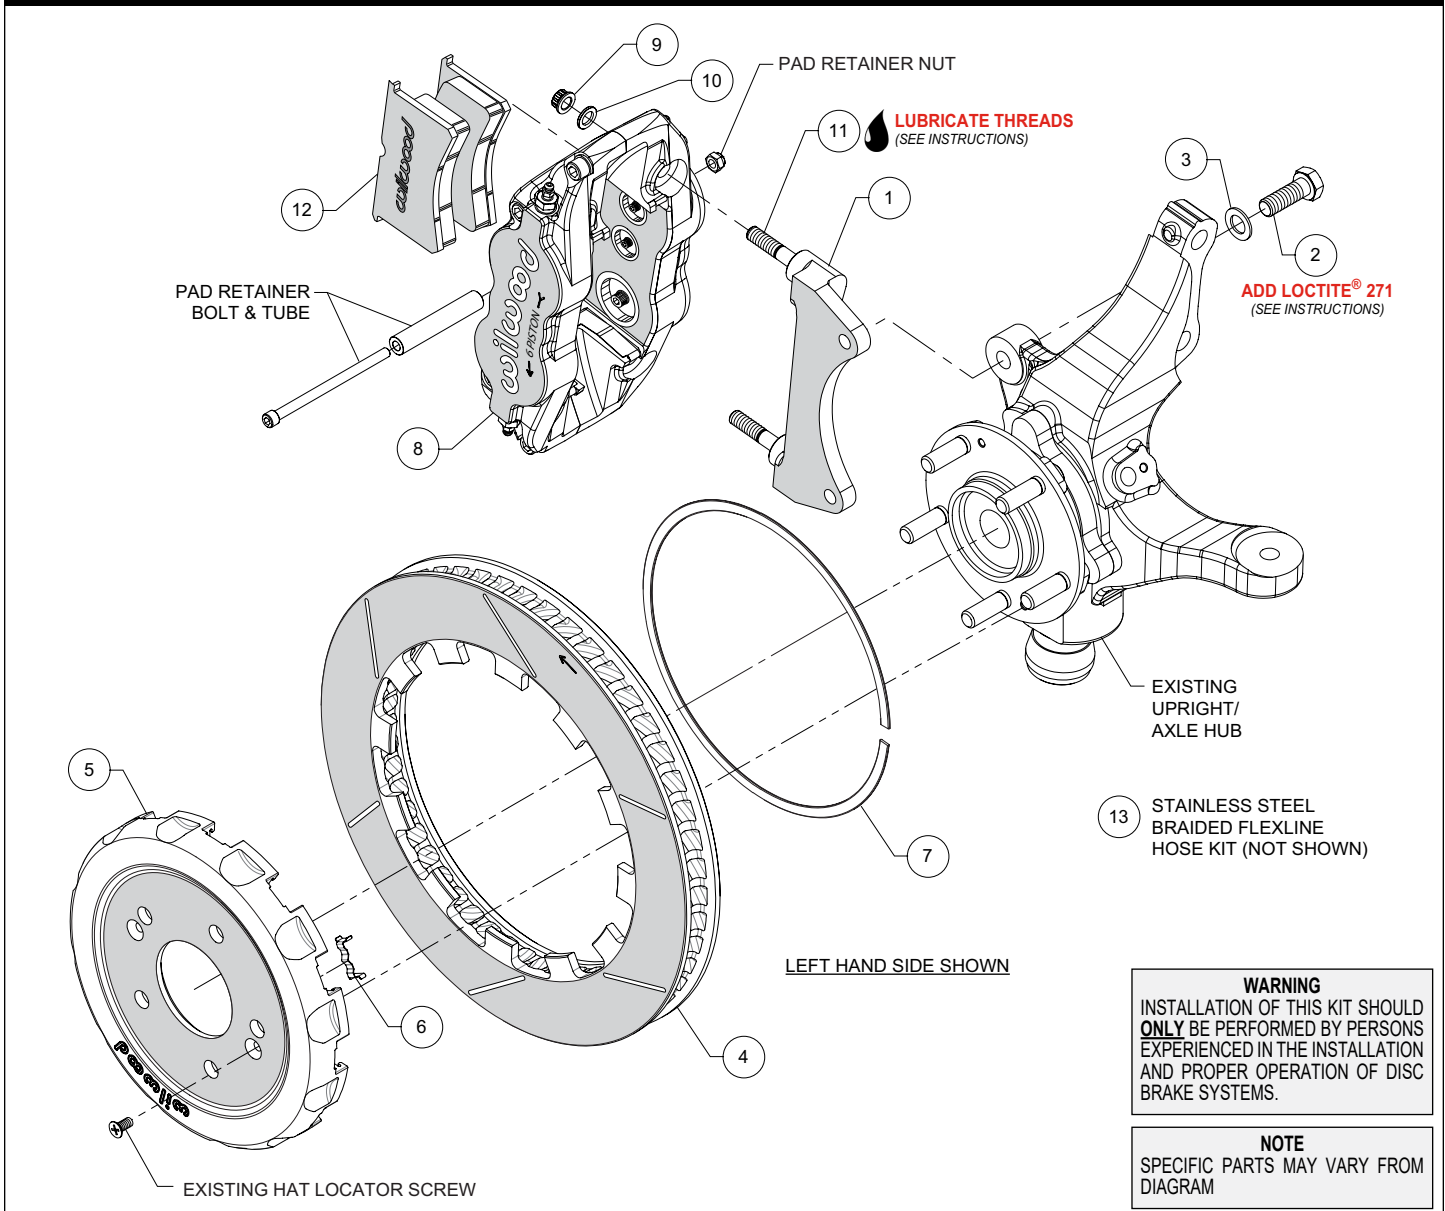

Figure 1. Typical Installation Configuration
**NOTE:** Numbers in parenthesis refer to the parts list and Figure 1 on the preceding pages.
- Orient the caliper mount bracket (1), as shown in Figure 1 and Photo 1, and install using bolts (2) and washers (3). Temporarily tighten the mounting bolts. **NOTE:** *The bracket must fit squarely against the mount bosses on the upright.* Inspect for interference from casting irregularities, machining ridges, burrs, etc. Remove the bracket mounting bolts one at a time, apply red *Loctite® 271* to the threads, and torque to 60 ft-lb.
- Insert the dynamic mount wear clips (6) into the slots in the hat (5), Photo 2. Orient the rotor (4) as shown in Figure 1 and
- Slide the hat/rotor assembly onto the axle hub, Photo 5. **NOTE:** *The hat must fit flush against the axle hub flange or excessive rotor run out may result.* Install the OEM hat locator screw(s), as shown in Photo 6 and Figure 1, to keep the hat/rotor assembly in place while continuing with the installation.
•**NOTE:** *This kit contains distinct right and left hand calipers that must be mounted in a specific direction, as described below.* Lubricate the caliper mounting studs (11) with lightweight oil. Mount the caliper (8) onto the bracket (1) using lock nuts (9) and washers (10), Figure 1. Temporarily tighten the lock nuts. Ensure that the caliper is mounted so that the largest pistons are at the rotor exit end of the caliper, in relation to the forward direction of rotor rotation.
•Remove the caliper pad retainer bolt, nut, and tube from the caliper. Insert the brake pads (12) into the caliper, with the friction material facing the rotor, as shown in Photo 7. Confirm that everything fits properly, then torque the caliper lock nuts (9) to 30 ft-lb. Secure the brake pads in place with the pad retainer tube, bolt, and locknut, Photo 8. The locknut should be snug without play in the bolt or tube. Be cautious not to over tighten.